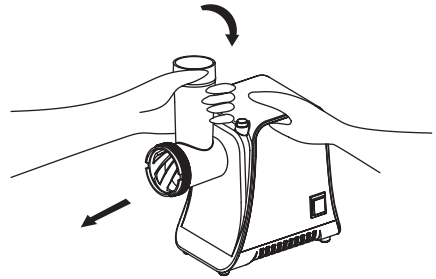

Figure 20.
5. Press the lock button, move the head clockwise as illustrated on fig. 20, then you can take out the head.